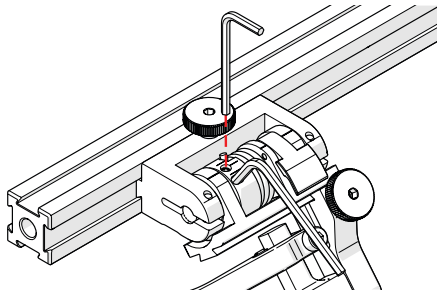

Fig. 41 - Insert hex wrenches
4. Place the 2 mm hex wrench into the force adjustment screw (Fig. 41).